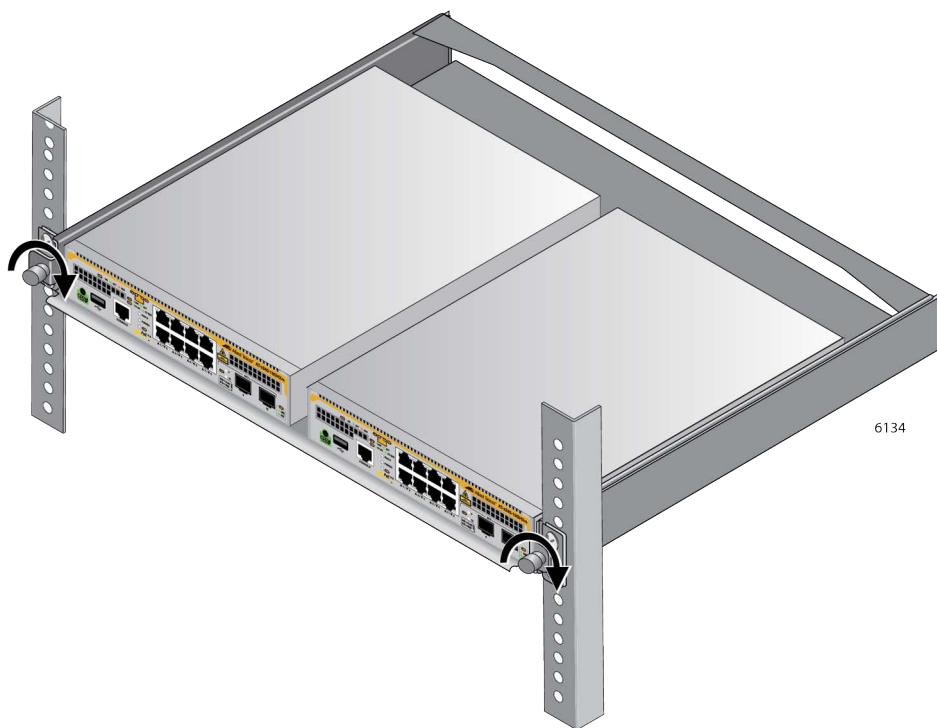

Figure 43. Tightening the Two Thumbscrews on the RKMT-J15 Bracket
11. Tighten the two thumbscrews to secure the tray to the equipment rack. Refer to Figure 43 on page 70.